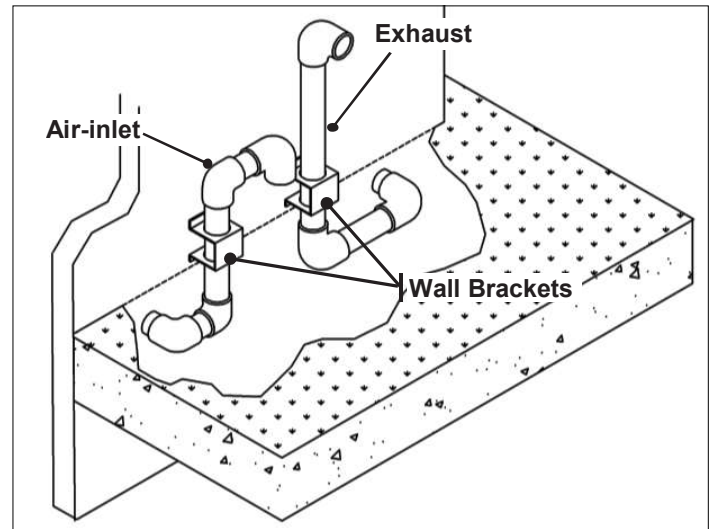

Figure 22 - Venting Below Grade
- Excavate the site to a point where the pipes are to exit as shown in Figure 22.